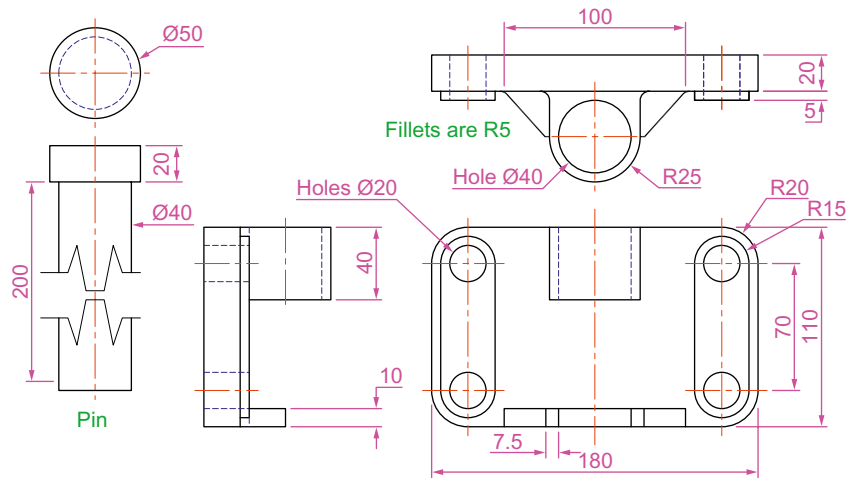

Fig. 18.13 First example – 3D models – details of sizes and shapes
1. **Front** view. Construct the three extrusions for the back panel and the two extruding panels to the details given in Fig. 18.13.